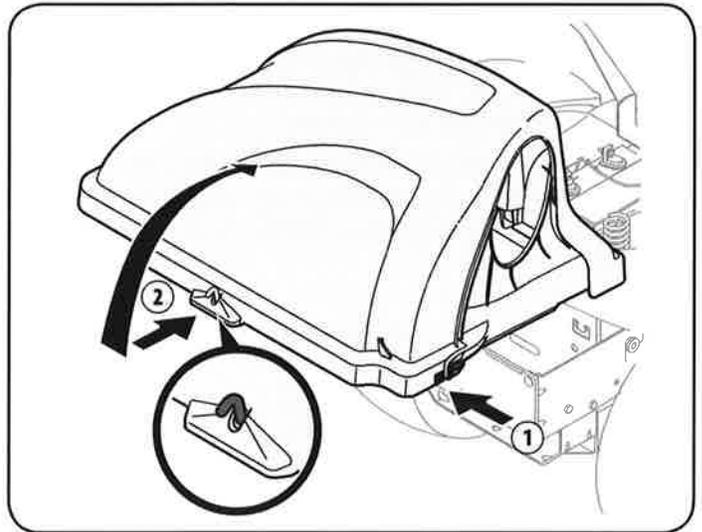

Figure 16
6. Open Hood by pushing in on the rear, right-side tab with your right hand, as seen in 1 of Figure 16, and lifting the cover with your left hand in the center rear of the bagger cover, 2.